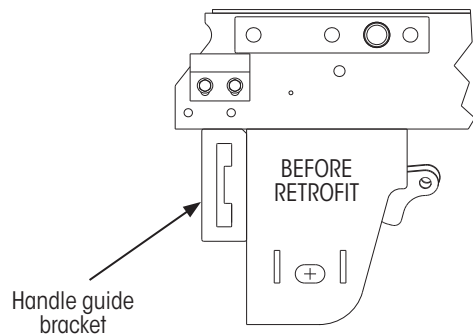

Figure 11: Existing handle guide bracket, handle removed
1. **Place** the new bracket on the existing bracket (Figure 11) as shown in Figure 12.